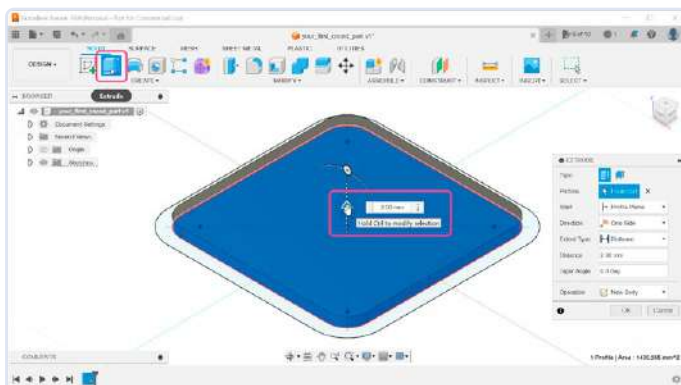

Figure 7: Starting the extrusion!
7) We have sufficient shapes to start extruding them. Close sketch editing by clicking the *Finish Sketch* button, and then select the *Extrude* tool from the toolbar (Figure 7). Click the inner rounded rectangle on the sketch and enter a distance of 2 mm.